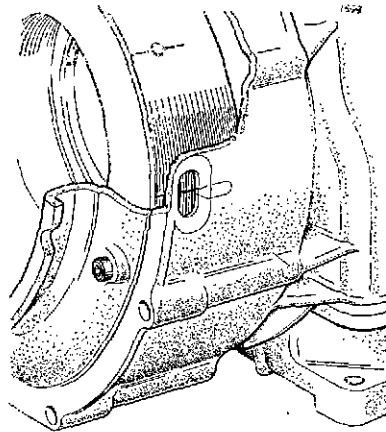

Fig. 13
61. To time fuel injection pump (Fig. 13)